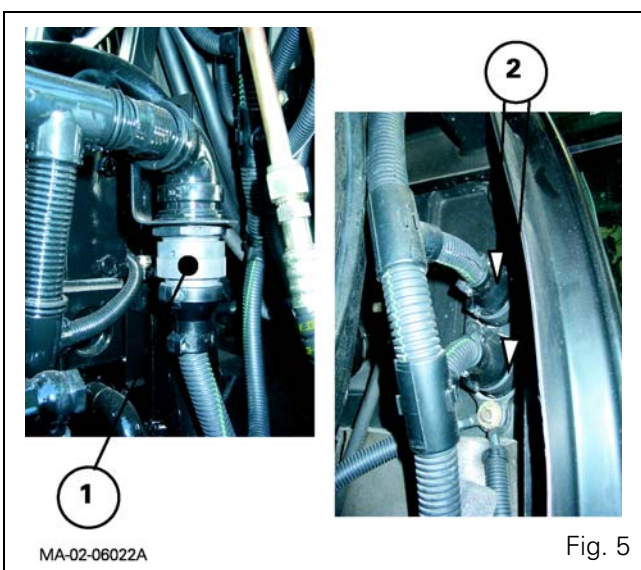

Fig. 5
15. Disconnect the connector (1) of the main wiring harness (Fig. 5).
17. Disconnect the connectors (2) on the left-hand face of the fire wall (Fig. 5).